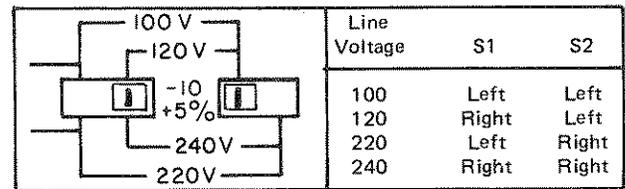

Figure 3-5. Line Selector Switches.
- b. Refer to Figure 3-5. Set the rear panel Line Selector switches to the setting that corresponds with the line voltage to be used. Line voltage must be within -10% to +5% of the selected voltage setting. Line frequency must be within the range of 48 Hz to 66 Hz.